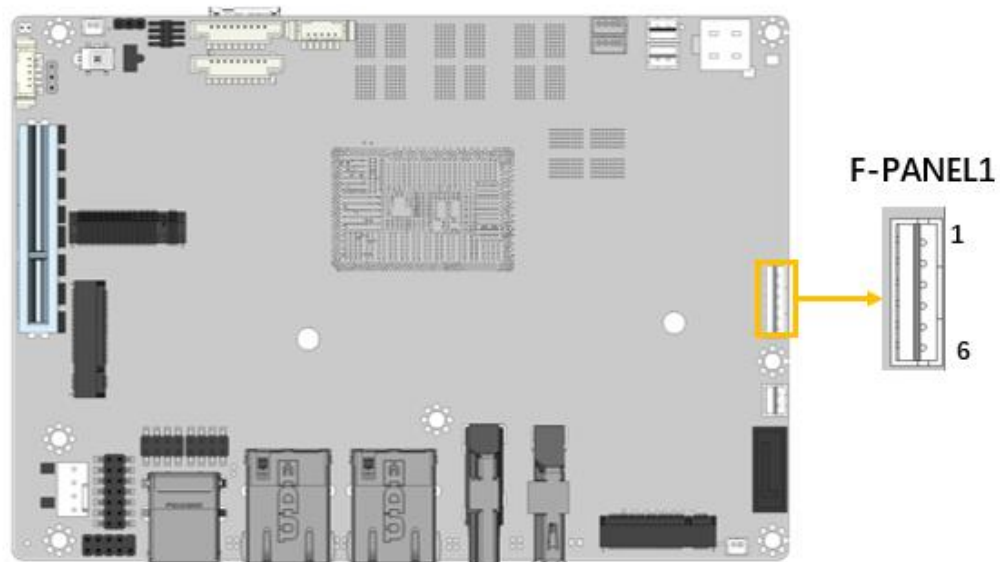

Figure 3-12: Power LED & HDD LED Connector Location
- CN Location:** See **Figure 3-12**